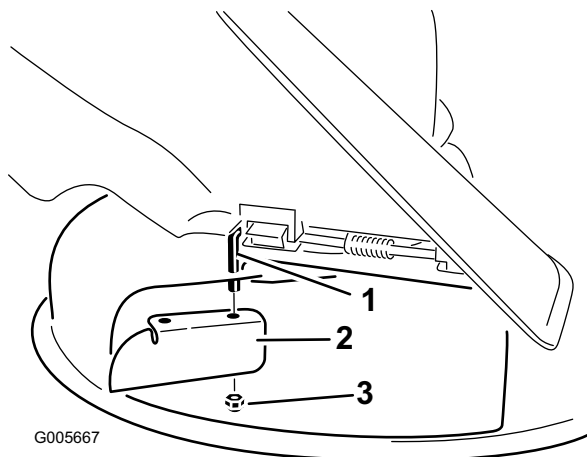

Figure 10
2. Install the cutoff baffle to the exposed pivot rod (Figure 10). Use the existing thin nut (3/8 inch) to secure the baffle to the mower.